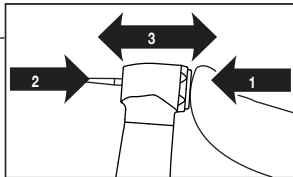

Fig. 3
- 2) Insert the bur into the chuck. (Fig.3)
- 3) Make sure it inserted firmly till the end of the head. (Fig.3)